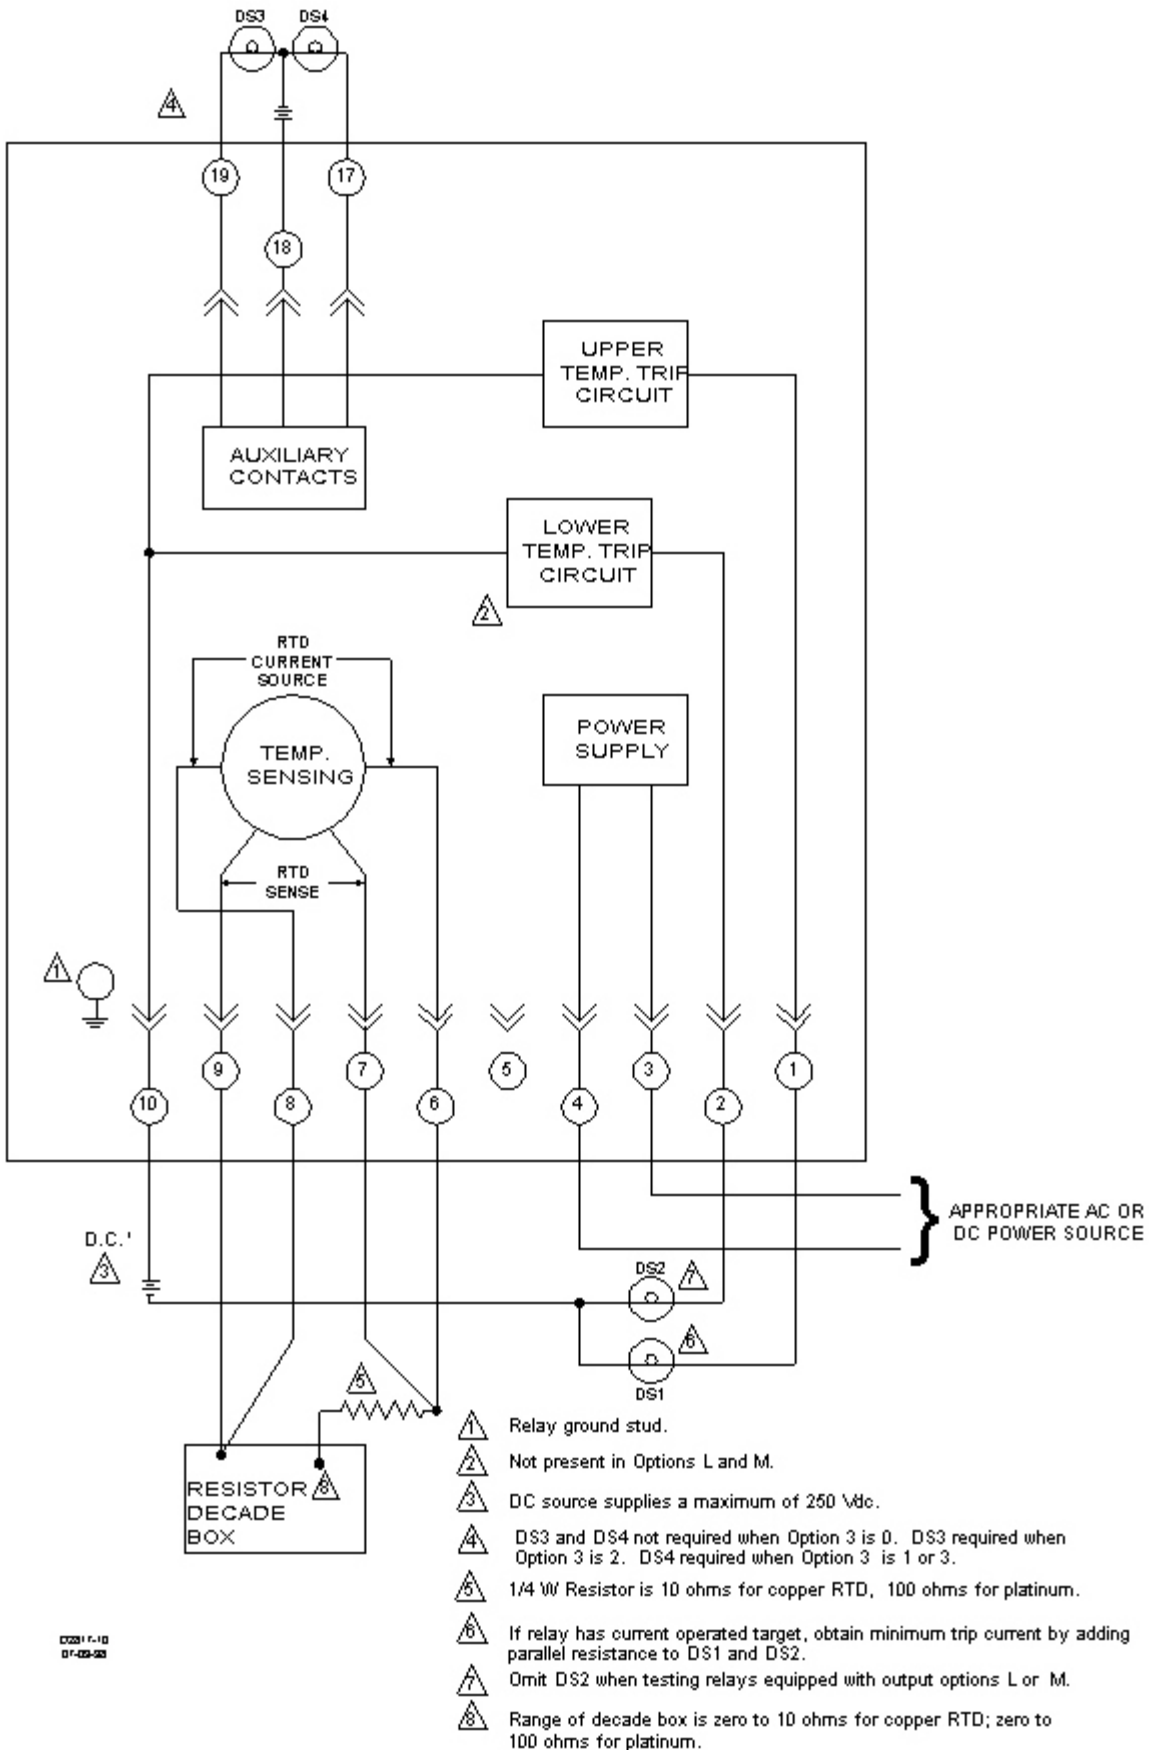

Figure 5-1. Temperature Relay Test Setup
- Step 1. Connect the relay as shown in Figure 5-1.
Step 1. Connect the relay as shown in Figure 5-1.